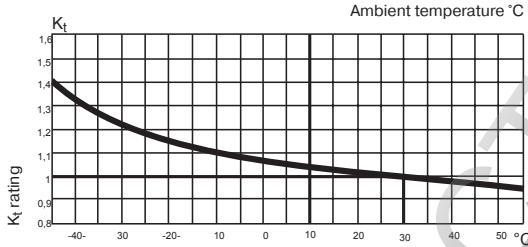

Fig. 3
3.3.1  $K_t$  rating reflecting the change in MCB load depending on the ambient temperature is shown in Figure 3.